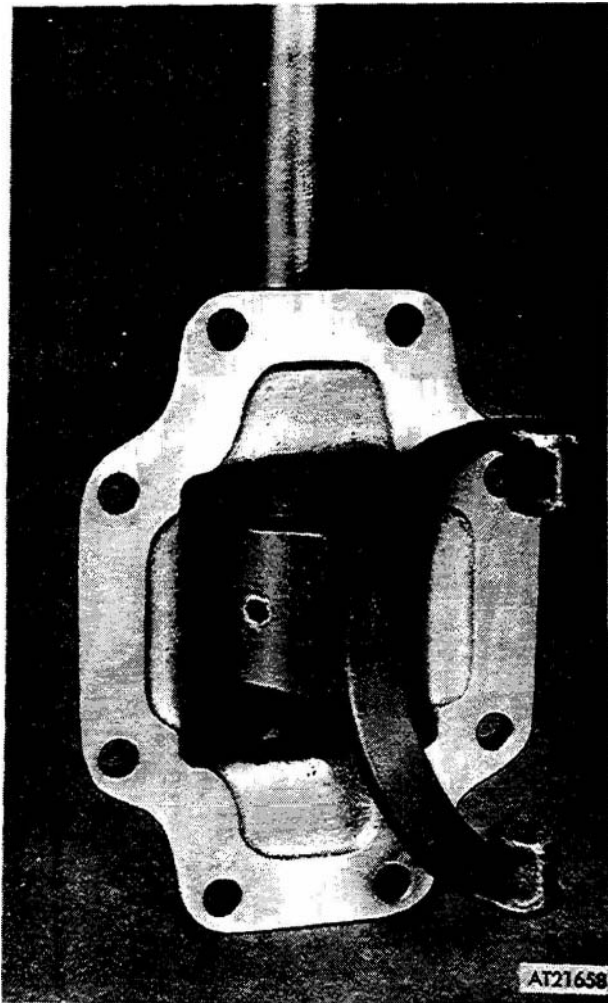

Figure 4-34. Staking clutch yoke setscrew.
(6) Position clutch yoke (20) in clutch lever housing (3) and position clutch yoke shaft (5) in housing through fork. Install packings (4 and 6) on clutch yoke shaft and bottom shaft in housing.
(7) Slide clutch yoke (20) on clutch yoke shaft (5) and install key (23) in shaft. Slide yoke over key and secure with setscrew (21). Stake setscrew to yoke (fig 4-34).